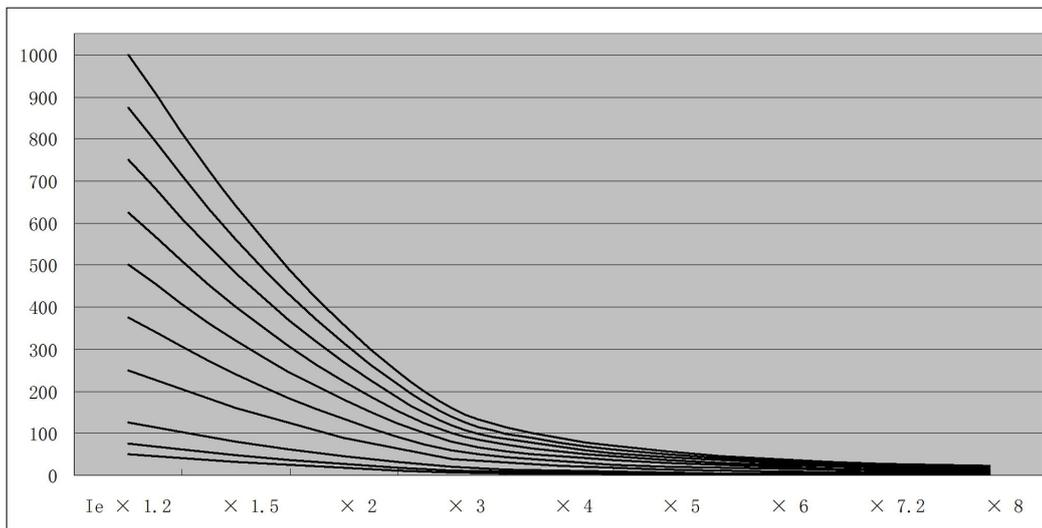

Figure 21 Overload characteristics graph
■ Overload protection current-Time table of comparison is shown as Table 18, the Overload characteristic curve graph (K curve graph) is shown as Figure 21.